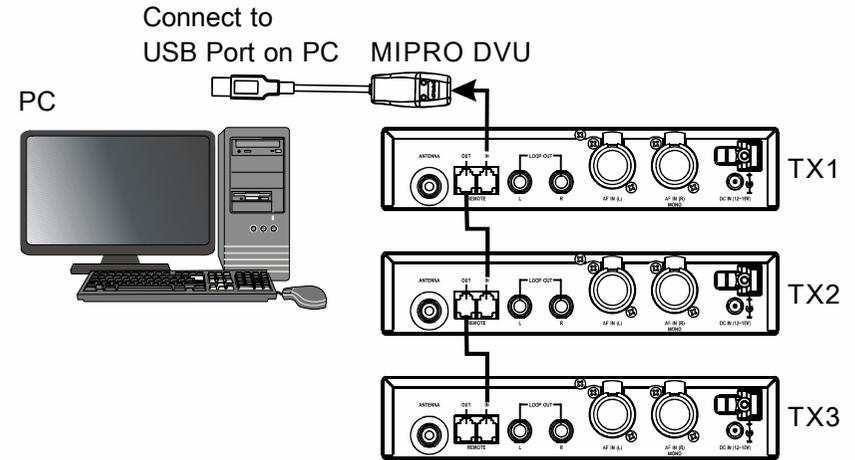

Fig. 33
2. Connection from REMOTE connectors located at the rear panel of the transmitter via connection to USB PORT, Fig. 33
- (A) Connect REMOTE OUT to REMOTE IN of another transmitter for interconnection of other transmitters. First transmitter (TX) 1, connect REMOTE IN to a MIPRO-DV.
- (B) Up to 64 transmitters can be linked and connected.
- (C) Up to 300 meters of internet connection is possible. However, we recommend for up to 100 meters to ensure optimal performance and quality of high-speed transmission